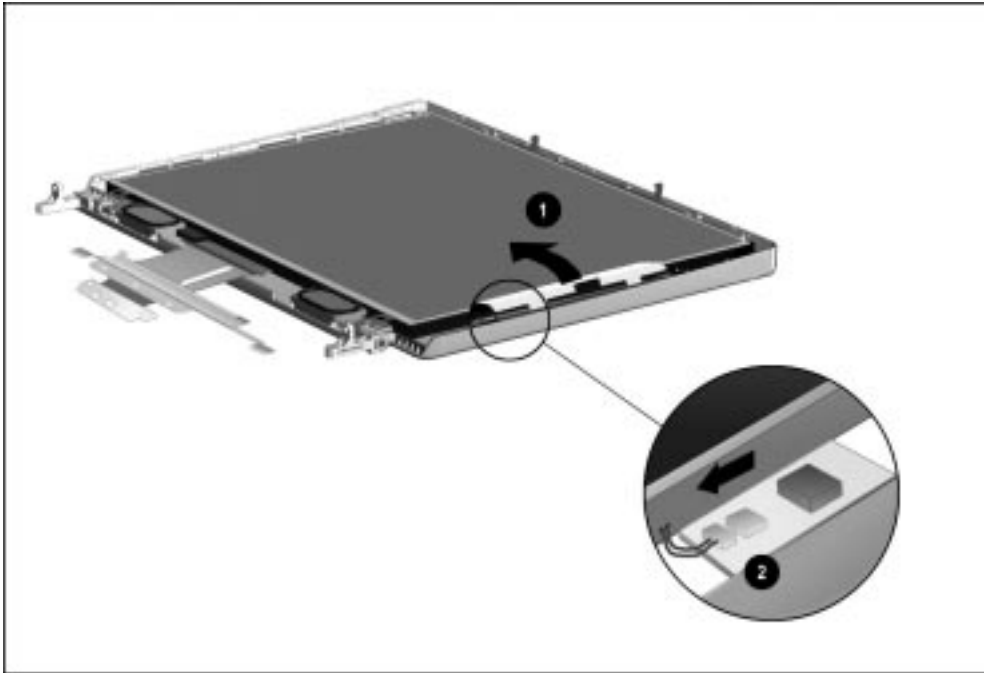

Figure 5-63. *Disconnecting the Inverter Power Cable*
10. Lift the inverter shield to uncover the inverter ❶. Disconnect the power cable from the inverter ❷ (Figure 5-63).